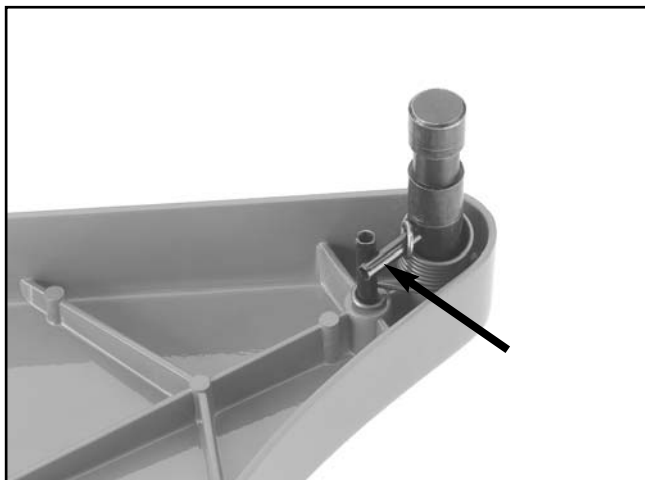

Figure 35. Spring tang on cutterhead guard.
1. Locate the spring tang on the cutterhead guard that is shown in **Figure 35**.